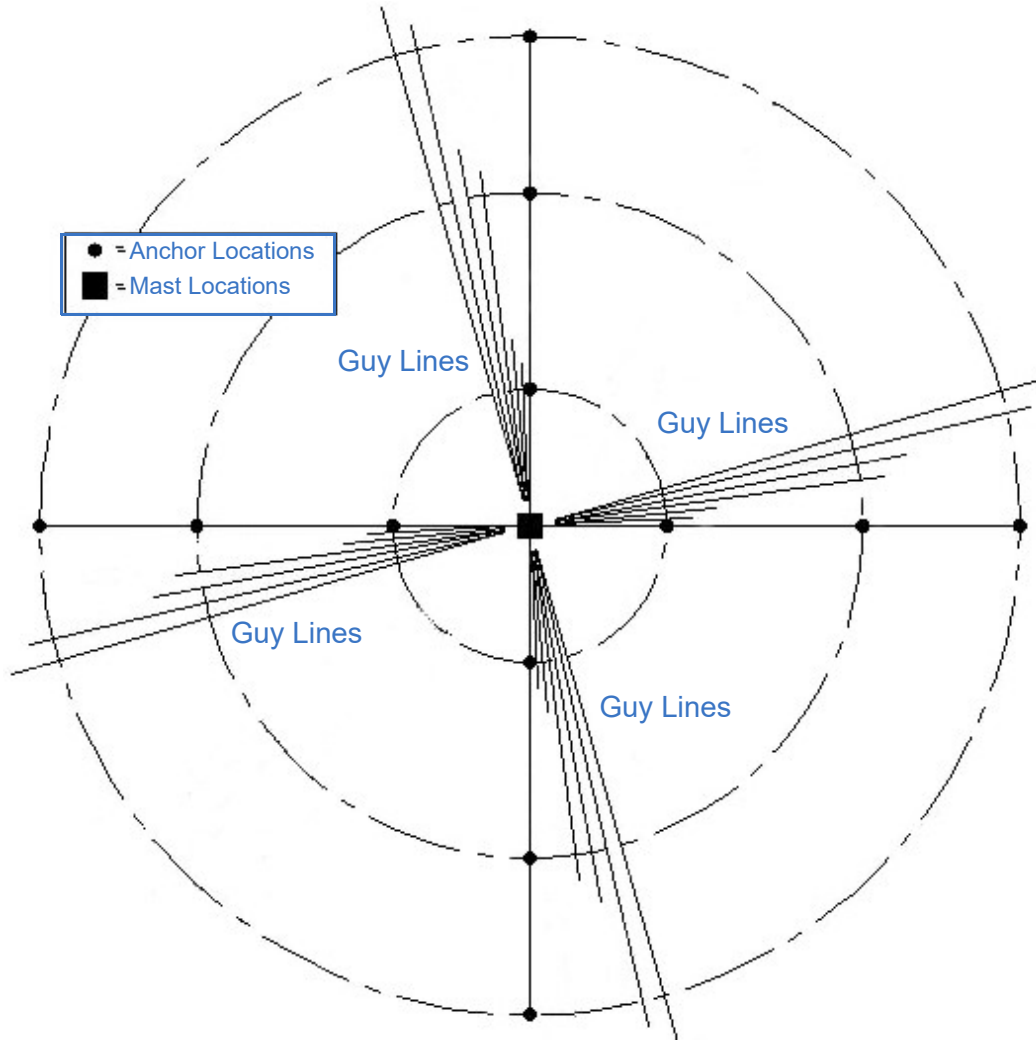

Figure 6-4 Sample of Laying Out Guy Lines (Mast with 4 Way 5 Level Guying Shown)
5. Prior to extending the mast, The Will-Burt Company recommends laying out any guy lines so they do not become tangled during extension (Figure 6-4).